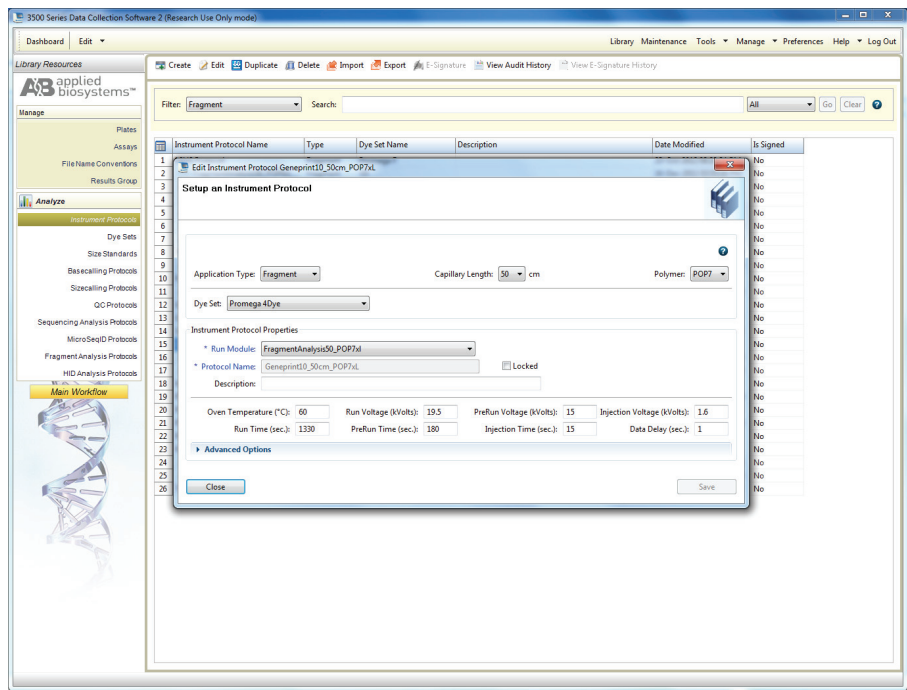

Figure 5. Setup an Instrument Protocol window.
2. To set up an Instrument Protocol, navigate to the Library, select “Instrument Protocols” and choose “Fragment” as the Filter. Choose the default protocol that is most similar to the one you will be using from the list of protocols, and duplicate it (Figure 5). Do not choose “Create”. For example, if you are using an 24-capillary Applied Biosystems® 3500xL Genetic Analyzer with a 50cm array and POP-7™ polymer, choose “FragmentAnalysis50_POP7xl”, and select “Duplicate”. Edit the copy of this Instrument Protocol, and fill in the drop-down menus as appropriate for your configuration. Be sure to choose “Fragment” as the Application Type, and select the dye set that you created in Section 4.B. The Run Module will be “FragmentAnalysis50_POP7xl”. Assign the Instrument Protocol a meaningful name so that it is clear when the Instrument Protocol can be used in future runs. Leave all run options and Advanced Options as the default settings. You may change default injection parameters later if necessary. Select “Save” and “Close”.